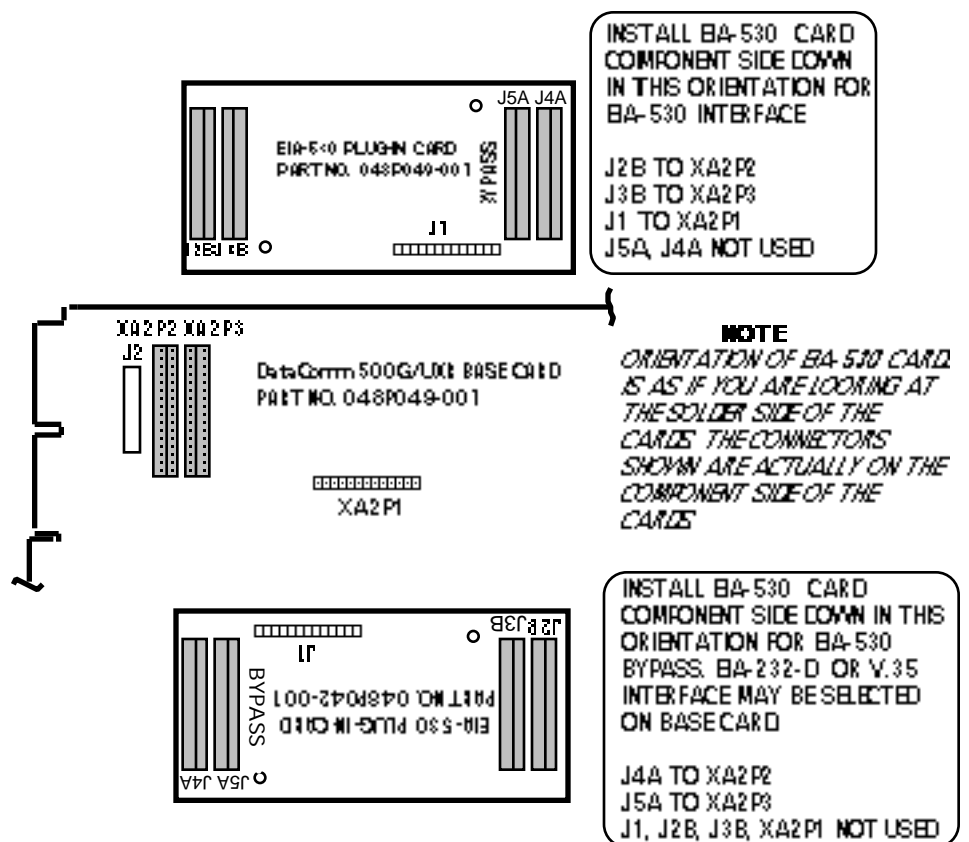

FIGURE 2-3. EIA-530 PLUG-IN CARD INSTALLATION
The DataComm 500G/UXR supports three business equipment interfaces: EIA-232-D, CCITT V.35, and optionally EIA-530. The EIA-232-D and V.35 interface hardware resides on the baseboard. An optional plug-in card is required for the EIA-530 interface. The EIA-530 card mates with the base card via connector XA2P1 and may be oriented in two positions when plugged into the basecard (see Figure 2-3). In one position, the 530 card connects to P1 and the DSU and provides an EIA-530 interface, regardless of the EIA-232-D/V.35 basecard strapping. In the other position, the 530 card acts as an XA2P1 jumper so the EIA-232D or V.35 interfaces may be used with the plug-in card mounted. Finally, the plug-in card may be removed entirely and jumpers placed across XA2P1 so that non-EIA-530 units may operate without the card.
4. Mate the EIA-530 Plug-In Card (GDC Part Number 048P042-001) to the basecard (GDC Part Number 048P049-001) in one of two orientations as shown in Figure 2-3.